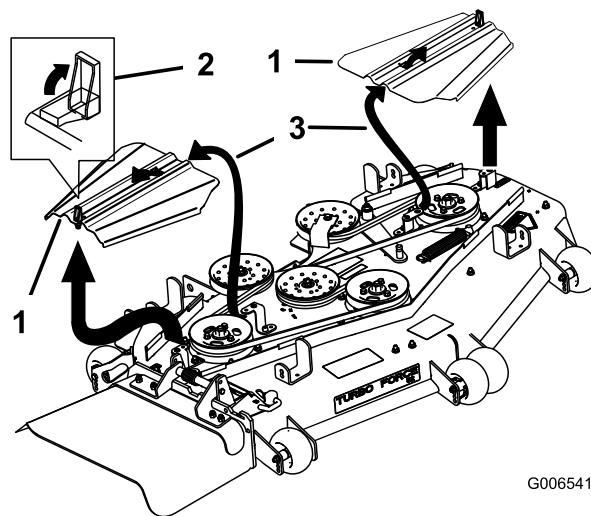

Figure 63
3. Remove the belt covers (Figure 63).